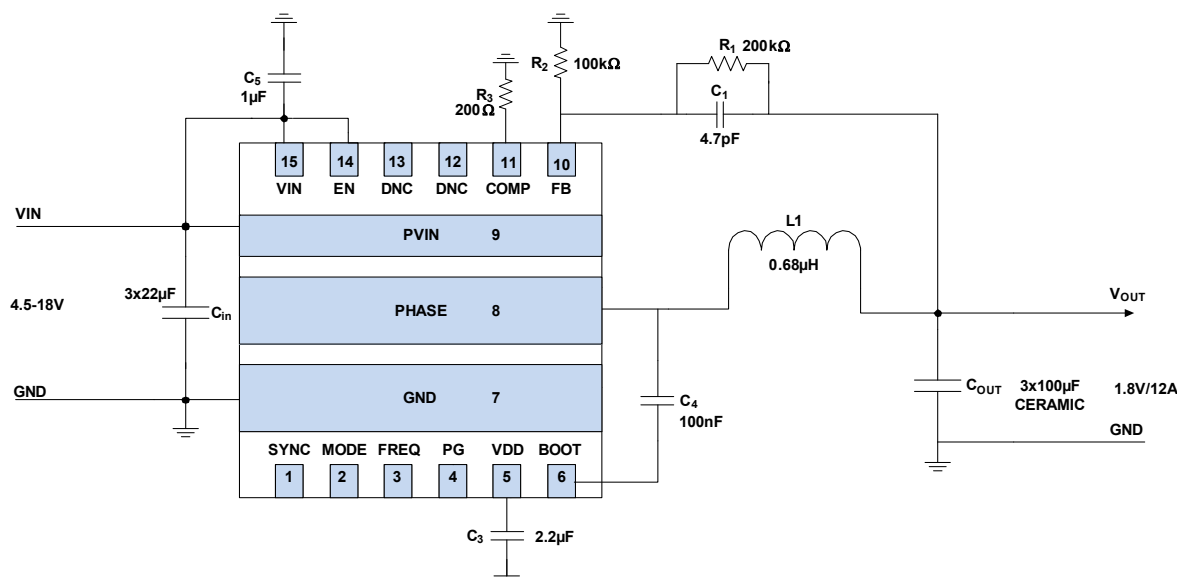

FIGURE 1. TYPICAL APPLICATION SCHEMATIC FOR INTERNAL COMPENSATION
1. The design table is referencing the schematic shown in Figure 1.